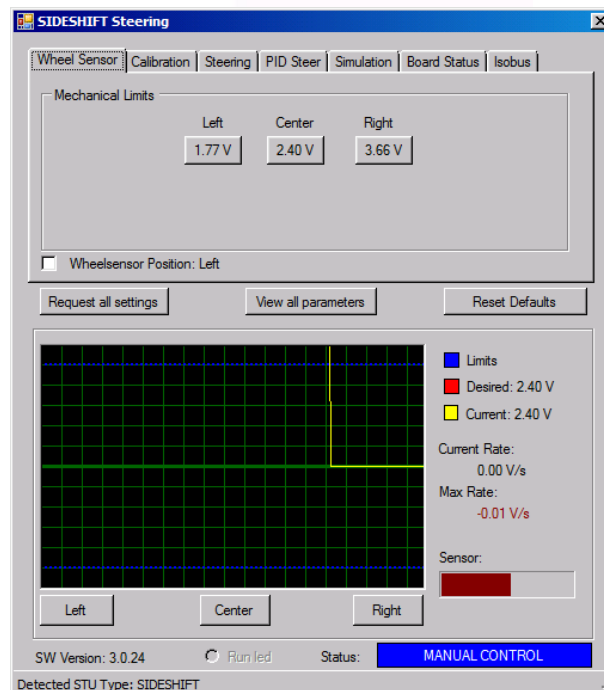
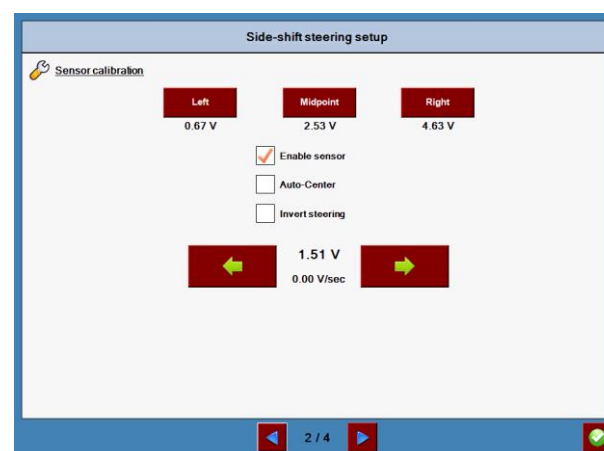

Figure 24 CAN-Tool tab Wheel Sensor
Figure 25 Calibrationwizard SBGuidance Angle Sensor
The angle sensor serves to provide feedback relating to the actual position of the Side-Shift cylinder or drawbar. Side-Shift steering uses the angle sensor for displaying the actual cylinder position in the software and making the “Auto-Centre” functionality useable. This is why calibrating the angle sensor is so important. Calibration can be performed from the tab Wheel Sensor (Figure 24), but also in SBGuidance (Figure 25).
3. Check the centre voltage when testing in the field. Read the centre voltage in the Calibration Wizard of SBGuidance (Figure 25) after driving for at least 50 metres in the automatic control mode. The centre voltage is used when Auto-Centre functionality is active.